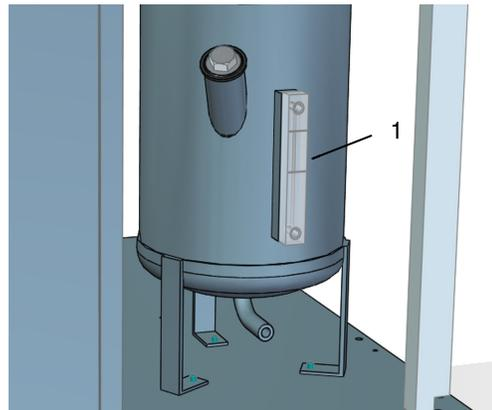

Fig. 6: Inspection glass
3. Check the inspection glass (Fig. 6/1) to make sure the oil is between the top and bottom oil level indicator lines.